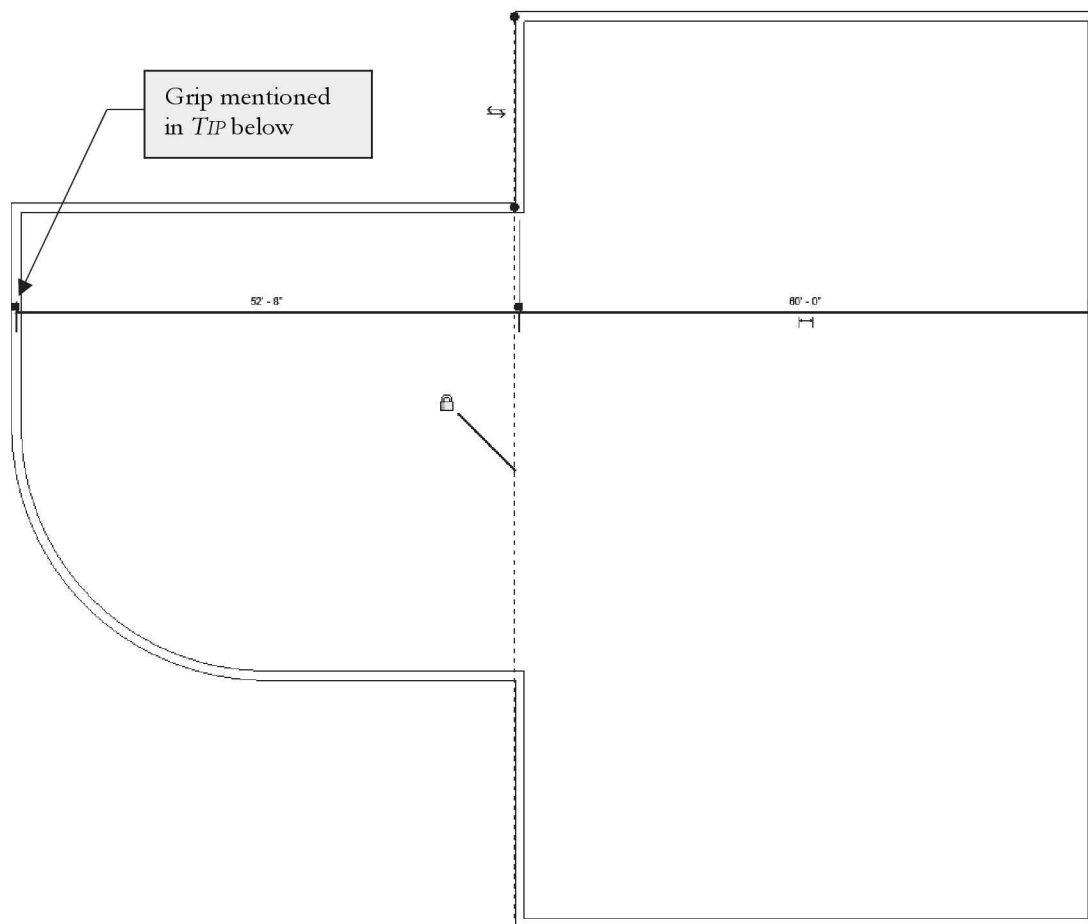

FIGURE 5-2.7
14. Change the 14'-0" dimension to **60'-0"** (Figure 5-2.7).
Notice that both walls moved together (Figure 5-2.7). Also notice that when either wall is selected the padlock is displayed, which helps in identifying “locked” relationships while you are editing the project. Whenever the padlock symbol is visible, you can click on it to unlock it or remove the aligned relationship.